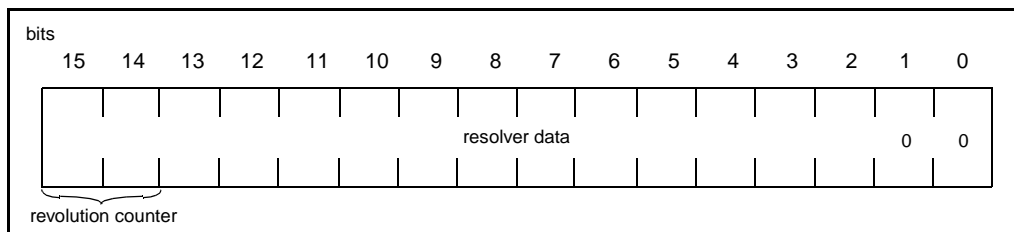
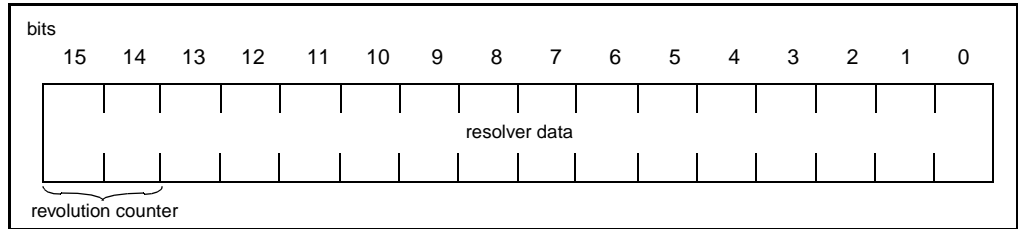

Figure 3.1 – Resolver Data Format (12-Bit Mode)
Figure 3.2 – Resolver Data Format (14-Bit Mode)
The resolver interface converts analog sine and cosine resolver feedback signals into digital format. A tracking ratiometric resolver-to-digital (R/D) converter outputs a 12- or 14-bit digital number indicating the absolute electrical position of the resolver shaft. The resolution (12 or 14 bit) of the R/D converter is selected during drive parameter entry. A two-bit revolution counter extends operation over four electrical revolutions. The counter is reset whenever power is turned on to the system or a system reset command is asserted by the PMI. When 12-bit mode is selected, the resolver data format will be as shown in figure 3.1. Figure 3.2 shows the resolver data format when 14-bit mode is selected.
The PMI supports two methods of sampling the digital position of the resolver, time-driven and event-driven. Both methods may be used simultaneously. In the first method, the position is sampled once per UDC task scan at the rate defined in the SCAN_LOOP control block in the UDC task. This block tells the UDC task how often to run based on the CCLK signal on the AutoMax rack backplane. The PMI sends the position data to the UDC module immediately before it is needed by the UDC module for the next UDC task scan. Position data measured using this method is stored in the UDC module's dual port register 215/1215 in the format shown in figure 3.1 or 3.2.
Position data measured using this method is placed in UDC register 216/1216 in the format shown in either figure 3.1 or 3.2. Bit 8 of UDC register 201/1201 is set to indicate that the strobe signal has been detected. This bit is set for only one scan to allow a strobe to be detected every scan. The UDC task must check this bit each scan to ensure the validity of the strobe data in register 216/1216. Bit 9 of register 201/1201 is set or cleared when the external strobe is detected and indicates whether the strobe level was rising (1) or falling (0).